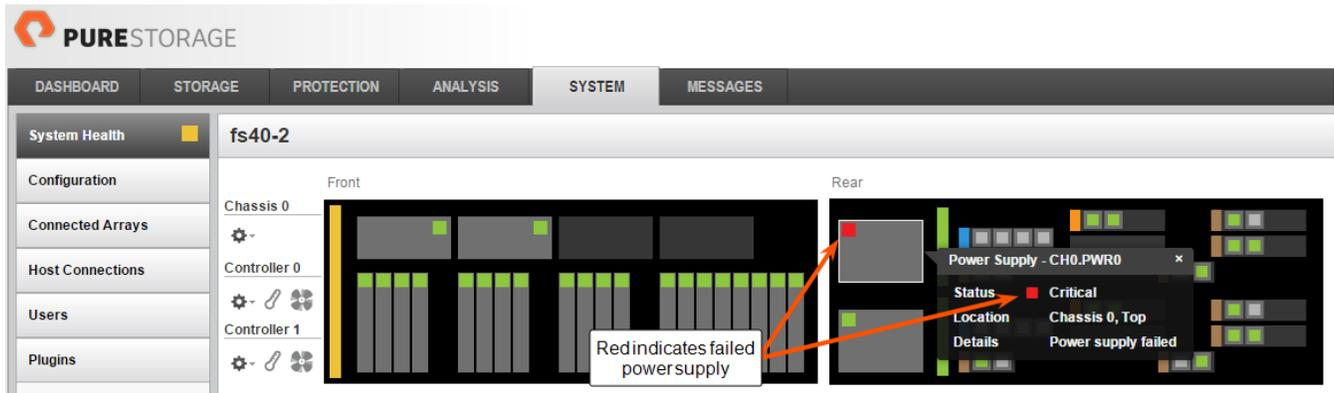

Figure 2-1. GUI Indication of Power Supply Failure
- Use the Purity GUI. Select **System > System Health**. A red rectangle in the upper left corner of a power supply icon indicates a failure (see Figure 2-1).